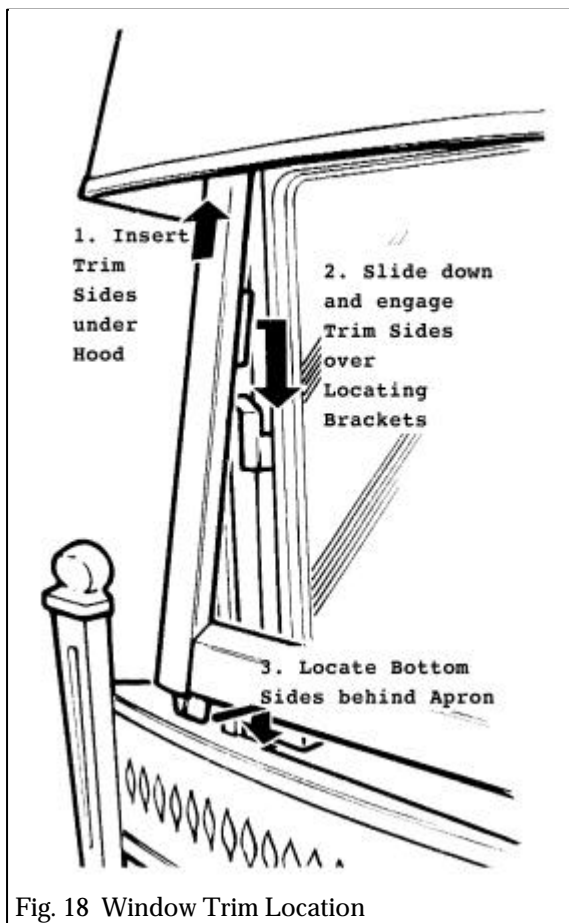

Fig. 18 Window Trim Location
14.8 Fit the window trim. Insert the trim side channels under the bottom front of the hood. Slide them evenly upwards. Push the channels gently against the window frame sides so that the trim channels are fully upright. Slide the trim channels down so that the flanges on the inside of the channels locate fully over the angled brackets on the window frame sides - see figure 18.